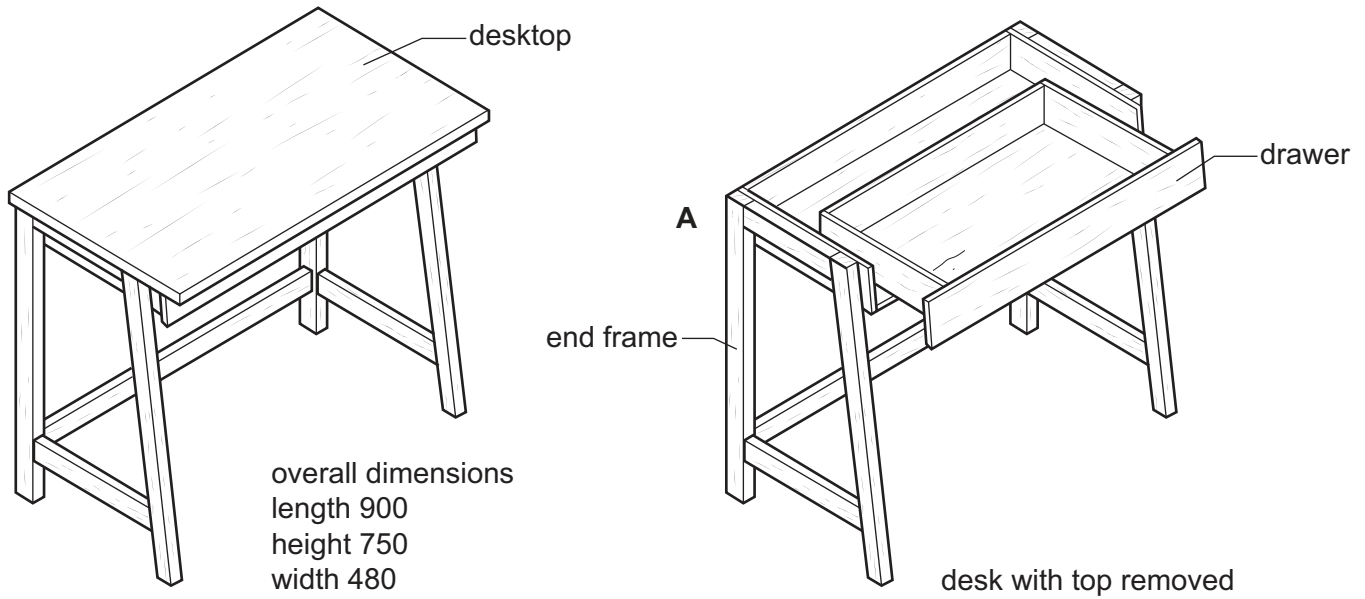
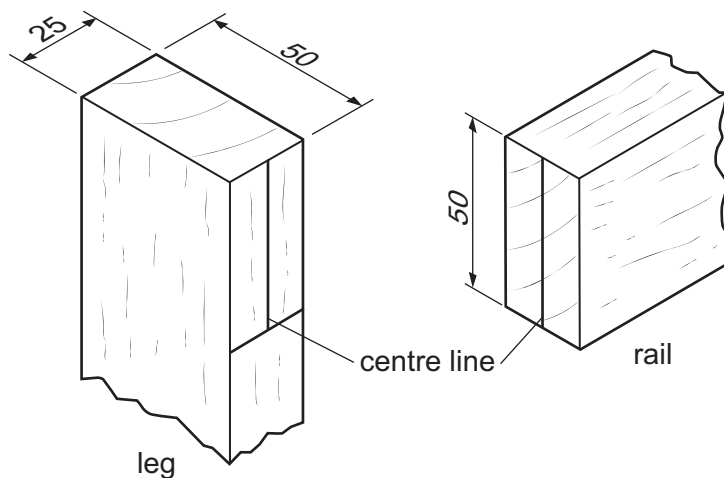

Fig. 13.1
Fig. 13.2
13 Fig. 13.1 shows views of a desk made of wood.
- (b) Fig. 13.2 shows part of the rail and leg at corner **A** in Fig. 13.1. The rail and leg will be joined using dowels. Centre lines for the dowels have been marked out.